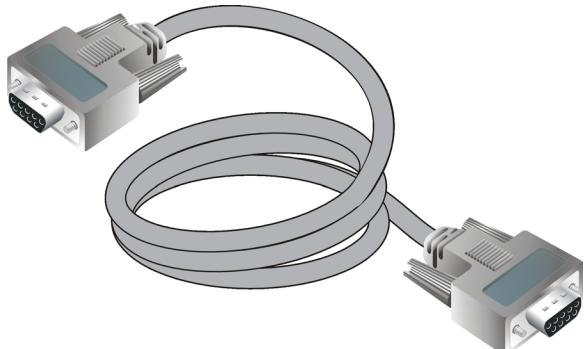

Figure 5 Null modem cable
- Null modem cable—An asynchronous RS-232 null modem cable as shown in Figure 5 is required to configure switch network addresses and acquire event log information through the maintenance port. The cable has nine conductors and DB-9 male and female connectors.